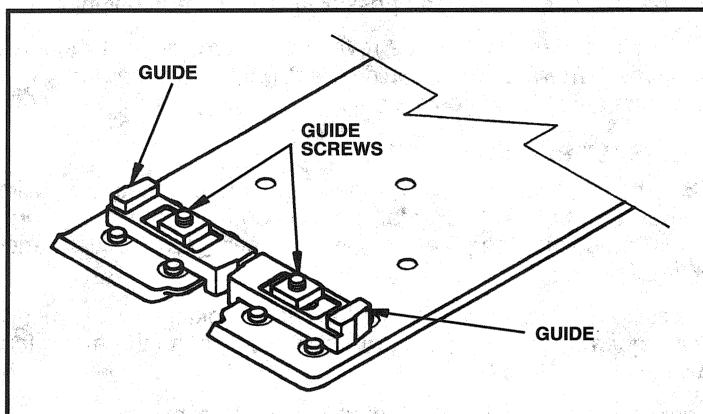

Fig. 1
1. Loosen two guide screws, Fig. 1, with a screwdriver.
7. Slide both blade guides, Fig. 1, towards blade until they lightly contact the sides of the blade, then back the guides off to produce paper thickness clearance per side.
5. If necessary adjust blade guides (B), Fig. 1, as outlined under INSTALLING PORTER-CABLE "HOOK" BLADES, Steps 7 and 8.